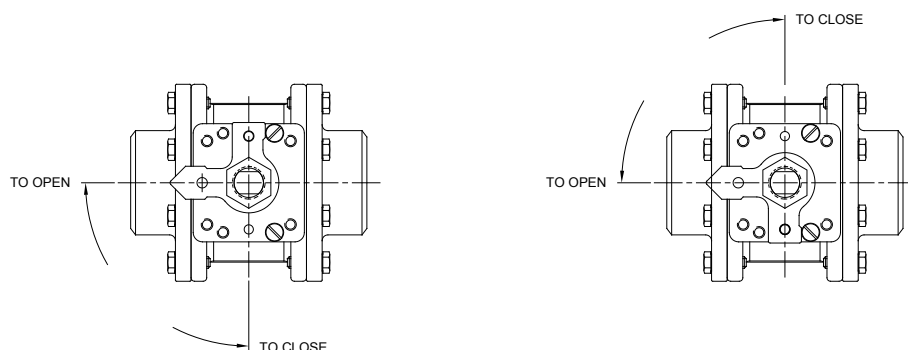

Fig. 2
- 4.2 For valve sizes 1 1/2" thru 2 1/2" there is a separate lock plate/indicator and valve lock-off is achieved by using a padlock or other suitable locking device. The handle is simply rotated provided no locking device is in place. There are two stop pins per assembly which can be relocated along with the stop plate to give opposite rotation (see fig. 2) and different start positions. Thereby the valve is either clockwise to open and counter-clockwise to close or counter-clockwise to open and clockwise to close.